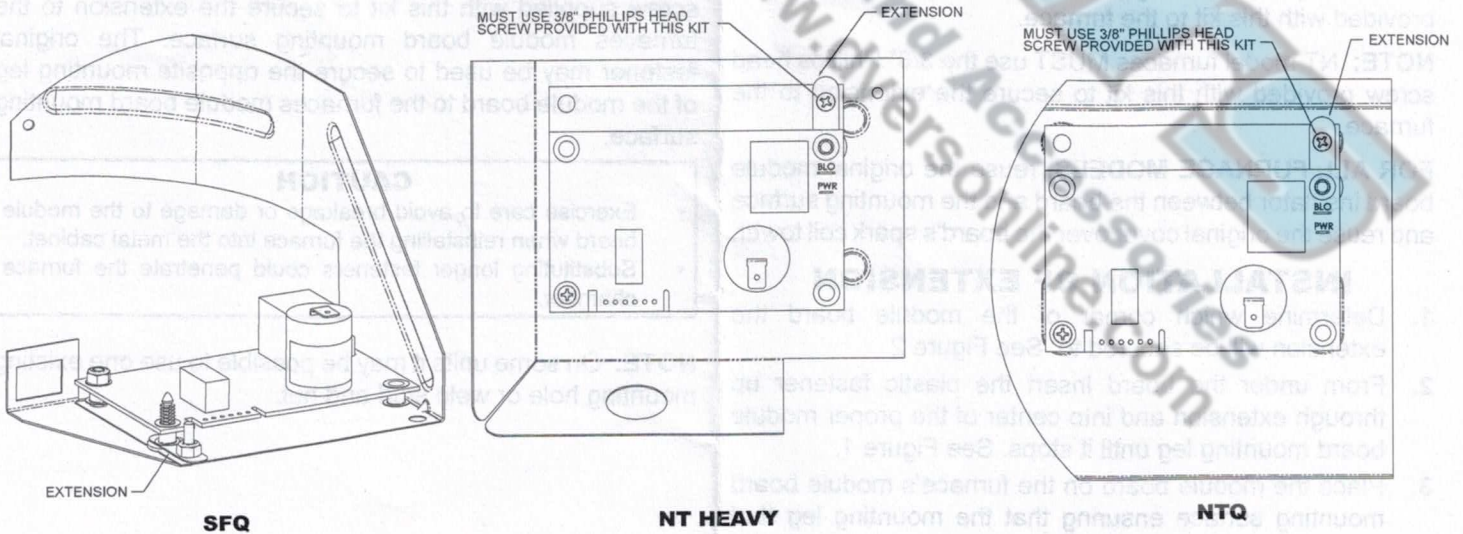

Figure 2
1. Determine which corner of the module board the extension will be secured to. See Figure 2.
3. Place the module board on the furnace's module board mounting surface ensuring that the mounting leg that is being used and the hole through the center of the extension are aligned with the correct fastener locations. See Figure 2.
Use the original fasteners to secure the module board mounting leg and the extension to the furnace's mounting surface at both locations. See Figure 2.